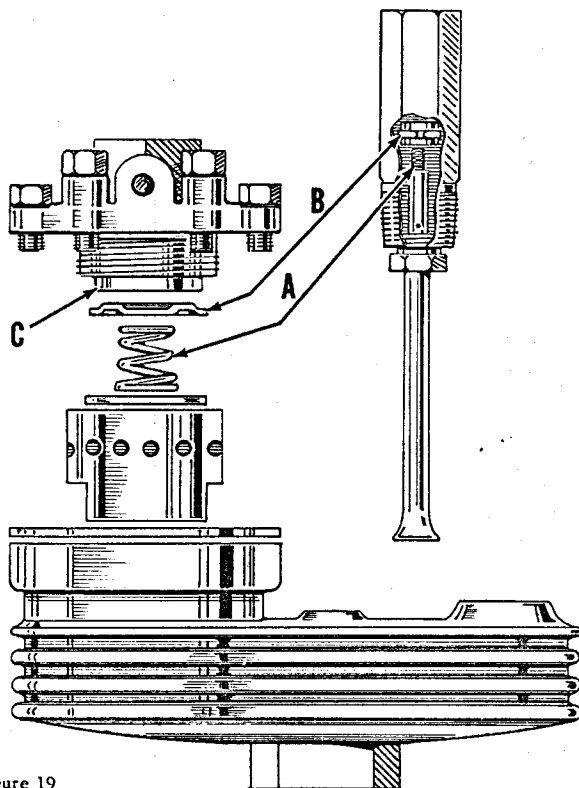

Figure 19
When the compressor is compressing air (See Figure 19) valve (B) is held down and off its seat. When compression is stopped spring (A) and air pressure forces valve (B) up and closed.